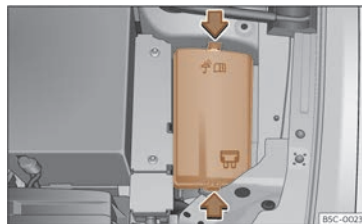

Fig. 49 In the engine compartment: fuse box cover. »
- Press the locking tabs to release the fuse box cover»»» **Fig. 49** .